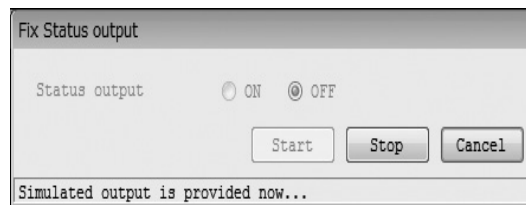

Fig.137
- ④ Click the "OK" button to cause the simulated output state to be outputted. While the simulated output is being outputted, a message at the bottom of the window will indicate that the system is "creating simulated output", as shown in Fig. 137.